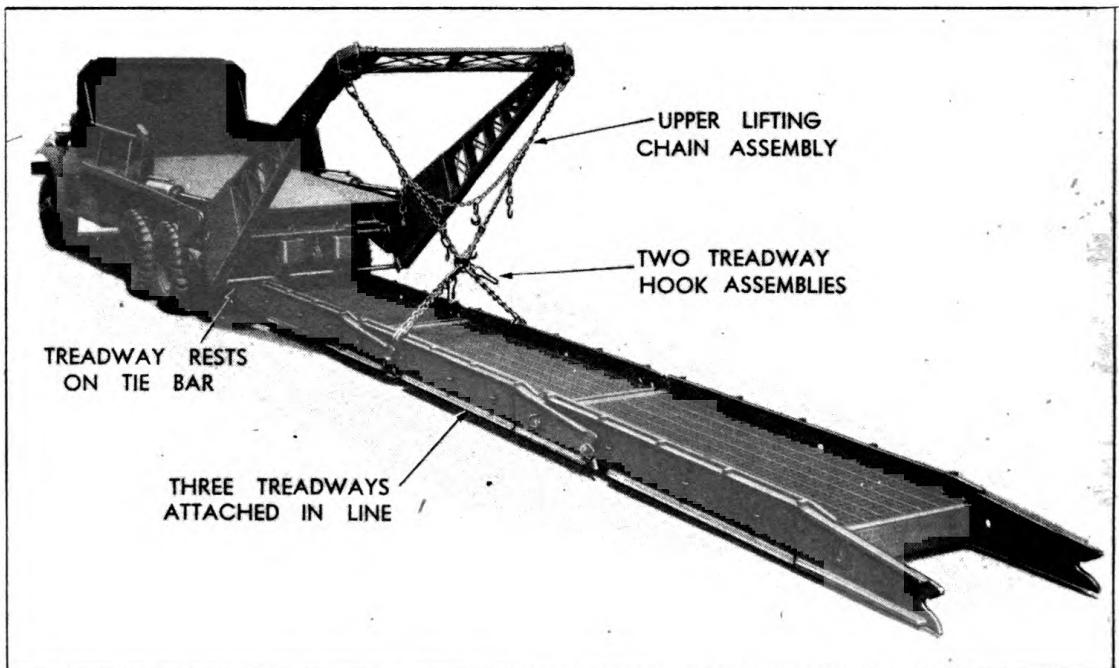
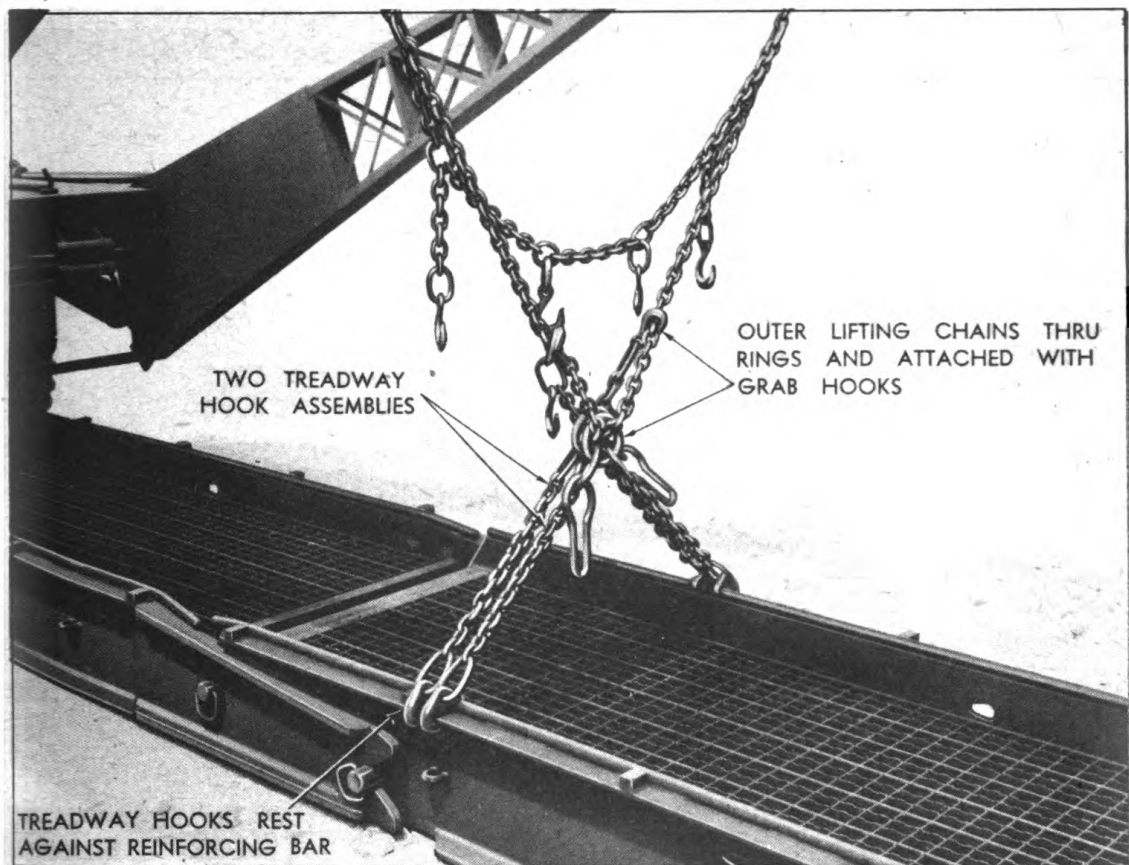
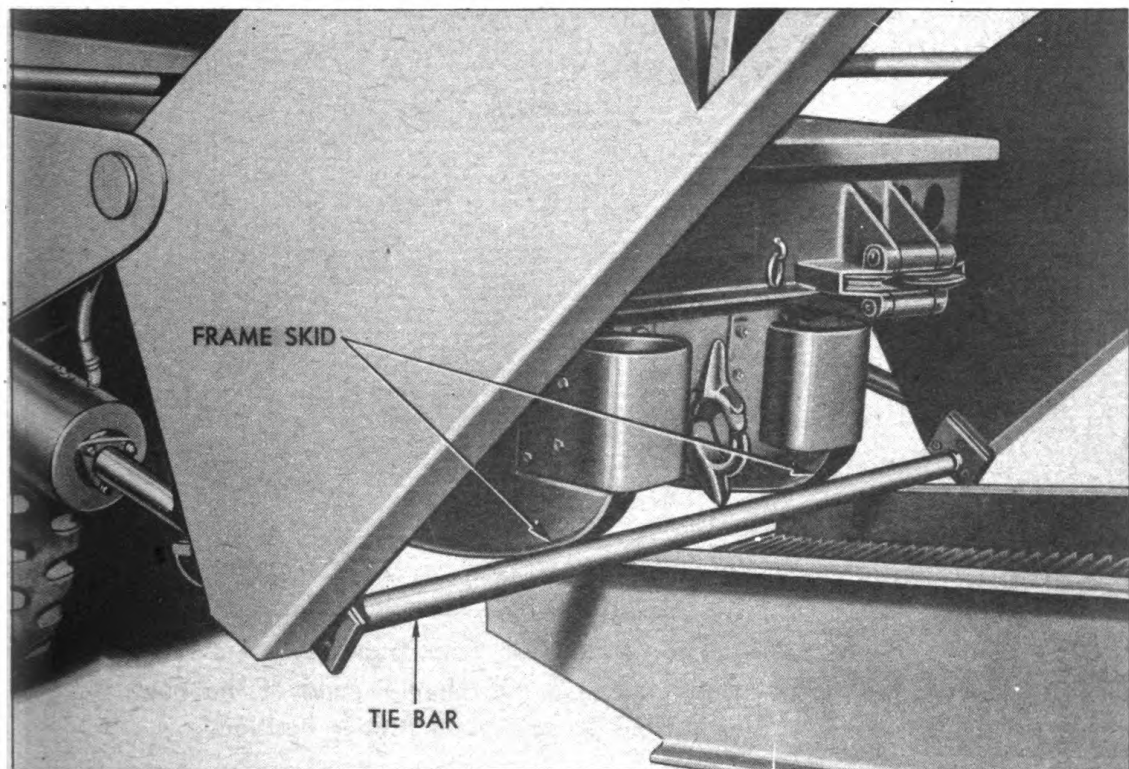

Figure 26. Handling Three Treadways in Line, Centered at Back of Truck
Figure 27. Treadway Hooks Attached to Flanges When Lifting Three in Line
Figure 28. Treadways in Position Under Truck and Bearing Against Tie Bar
(1) To handle three treadways in line, connect them together with the open ends away from the rear of the truck as shown in Figure 26. Insert the outer lifting chains through the rings of both treadway hook assemblies and fasten the GRAB HOOK on the end of each outer lifting chain to the opposite lifting chain at the position shown in Figure 27. This position permits maximum length of lifting chain.
(2) The hooks of each treadway hook assembly should be attached to the top flanges of the treadway and opposite each other, Figure 27. This prevents twisting of the chains when lifting. Figure 27 shows how the hooks attach just behind the second reinforcing block of the center treadway. Note also how the half-circle notch of the hooks lock over the guide bar on the treadway flange.
(3) The lifting chains are attached for maximum handling length. This permits raising the boom sufficiently to move the treadways forward under the truck so that lifting them will not overbalance the front end of the truck. It is obvious that the three treadways must be located in the center of the truck as in Figure 26. The end of the treadways which is under the truck must bear against the tie bar and frame skids as shown in Figure 28.